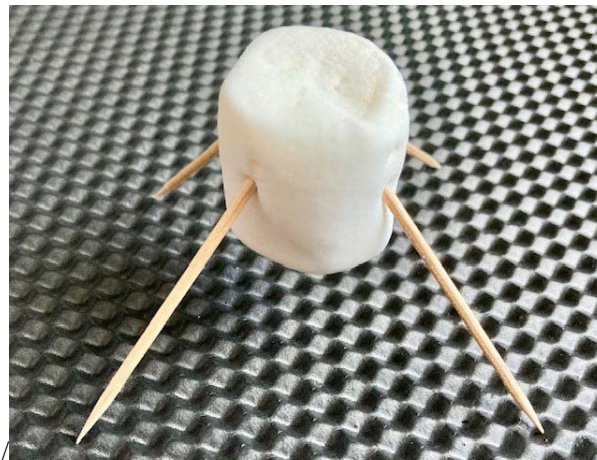

Figure 1. Insert the four toothpicks into the marshmallow to represent Ingenuity's legs.
2. Insert the four toothpicks into the marshmallow so they come out at angles as shown in *Figure 1*. The toothpicks represent the four hollow carbon-fiber legs on Ingenuity.